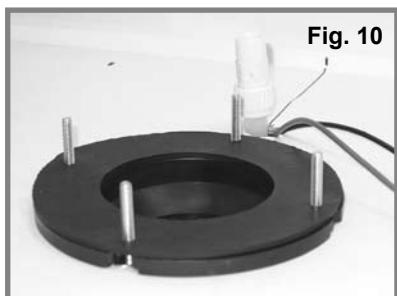

Fig. 10
STEP 11: Slide the four T-bolts into the slots of the floor flange. Install the flange gasket over the T-bolts (fig. 10).